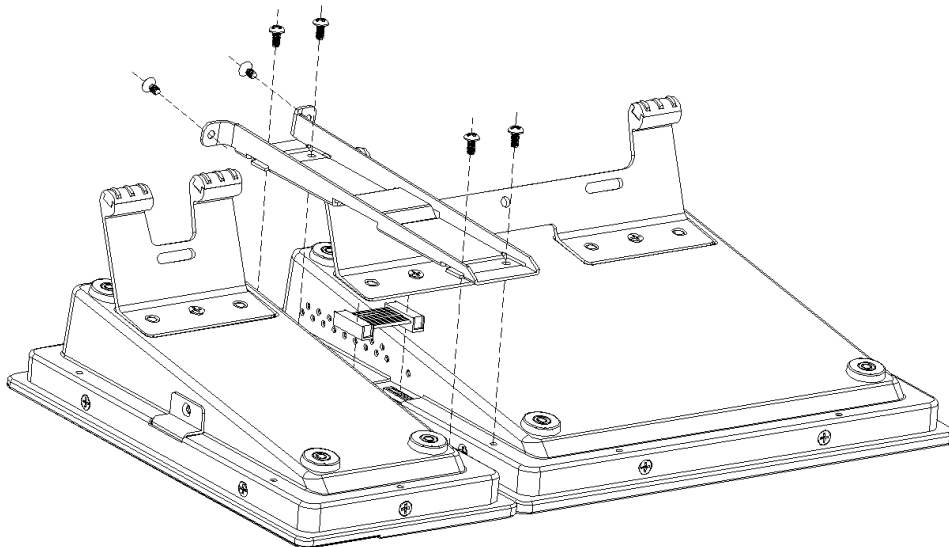

Figure 7 Installation Diagram of X-NPM and Extension Key Module
2. Put the bracket between the devices as shown in Figure 7, and fix it with standard configuration screws.